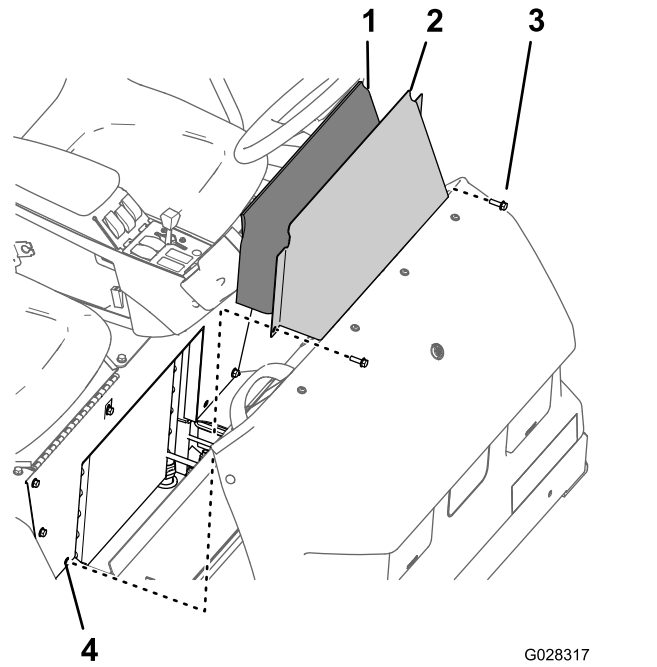

Figure 43
1. Remove the 2 flanged-head bolts that secure the seat base access cover to the seat base (Figure 43).
2. Remove the seat base cover and the acoustic panel from the machine (Figure 43).
1. Align the acoustic panel to the opening in the seat base for the seat base access cover (Figure 43).
2. Align the holes in the seat base access cover with the holes in the seat base (Figure 43).
3. Assemble the seat base access cover to the seat base with the 2 flanged-head bolts (Figure 43) that you removed in 1 in Removing the Seat Base Access Panel (page 40).